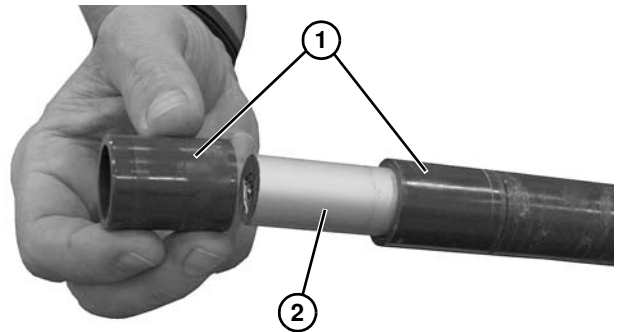

Figure 61
4. Slide idler sleeves (Figure 61, item 1) off the end of the idler shaft (Figure 61, item 2). If equipped, remove second idler shaft and remove idler sleeves.